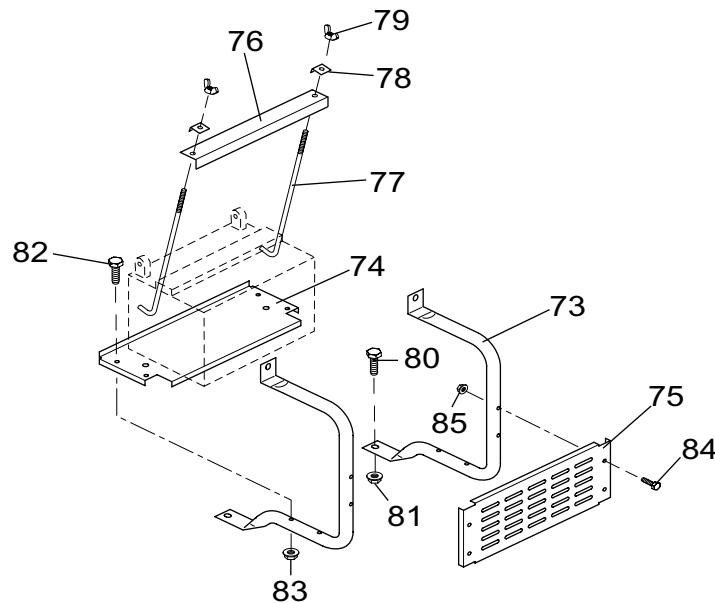

Figure 22: Battery Enclosure Exploded View
- (1) Remove battery (refer to Replacement of Battery section).
- (2) Refer to Figure 22. Remove two bolt-and-washer assemblies (82) and two self-locking nuts (83) from bottom of frame. Then remove two bolt-and-washer assemblies (80) and two self-locking nuts (81) from top of the frame.
- (3) Remove entire battery enclosure unit and set aside for installation later.